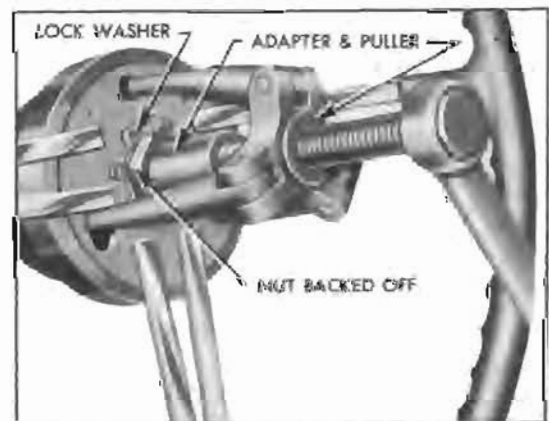

Figure 7-8—Removing Steering Wheel with Puller J 1566
4. Flatten the tab of lock washer, then back off steering wheel nut several turns but *do not remove nut*. Apply Puller J 1566 and adapter (fig. 7-8) and pull wheel back to nut. NOTE: *If*